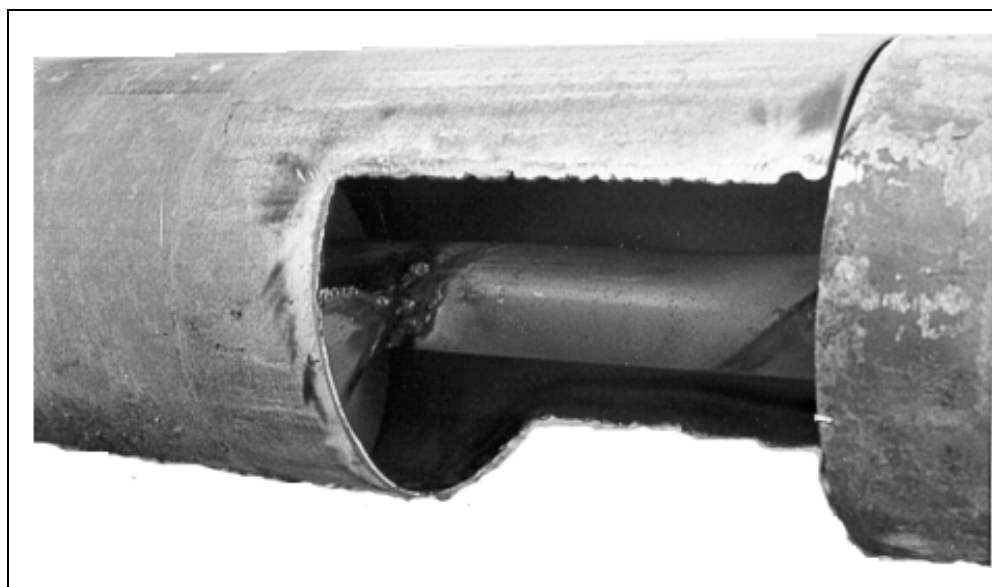

Figure 4B
2. Position the sensor connecting band on the discharge tube so that the rectangular hole is toward the discharge end. Mark the outline of the rectangular hole and the edges of the band on the discharge auger tube. Cut a hole in the discharge tube 8" long so the outline of the rectangular hole is removed (stay inside the total overall length marks of the band). Cut up one side of the discharge tube about one third ( $\frac{1}{3}$ ) of the way around the tube. This extra room is for ease of removing flighting in the next step. (See Figure 4B on Page 12.)